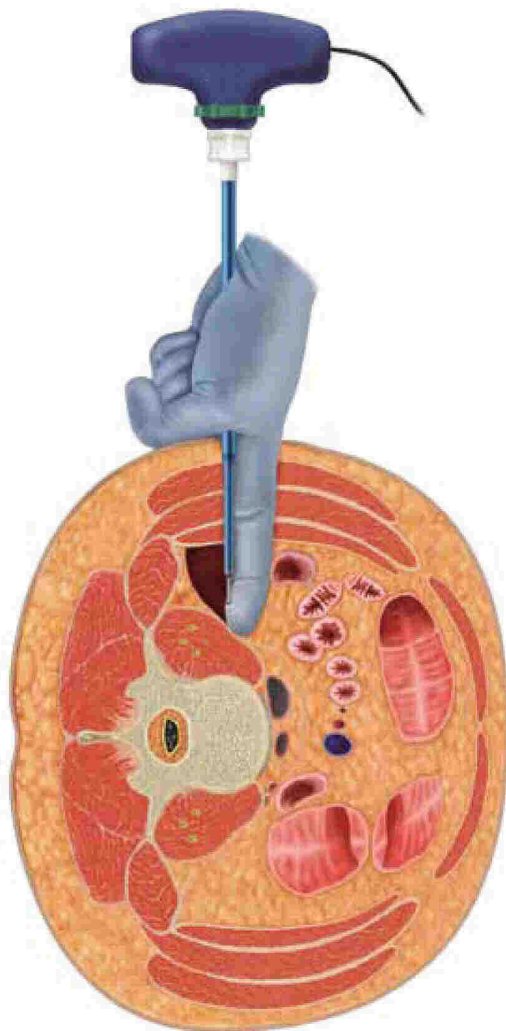

Figure 11
**Step 1** After a safe retroperitoneal pathway to the psoas has been established, the NIM® X-PAK Probe is guided down to the psoas while using the finger to protect the peritoneal membrane. The NIM® X-PAK Probe includes an electrified handle stylet assembly and an insulated cannula that enables controlled electrification at the tip of the device (Figure 11).